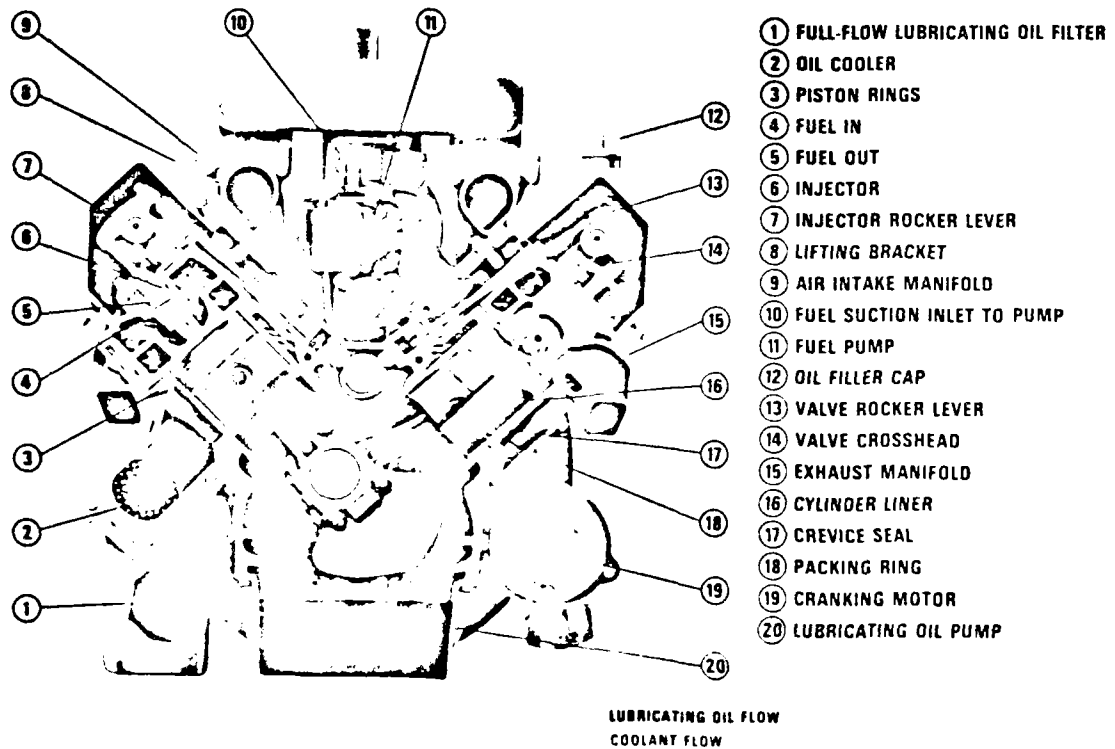

Fig. 5-17, (LWC-4). Lubricating oil and coolant flow — V-378, V-504, V-555 Engines
1. Oil flows from the filter to the right bank oil drilling at the rear of the engine to the accessory drive gear, rear cam bushing and rear main bearing which in turn supplies the two rear connecting rods. Fig. 5-17.